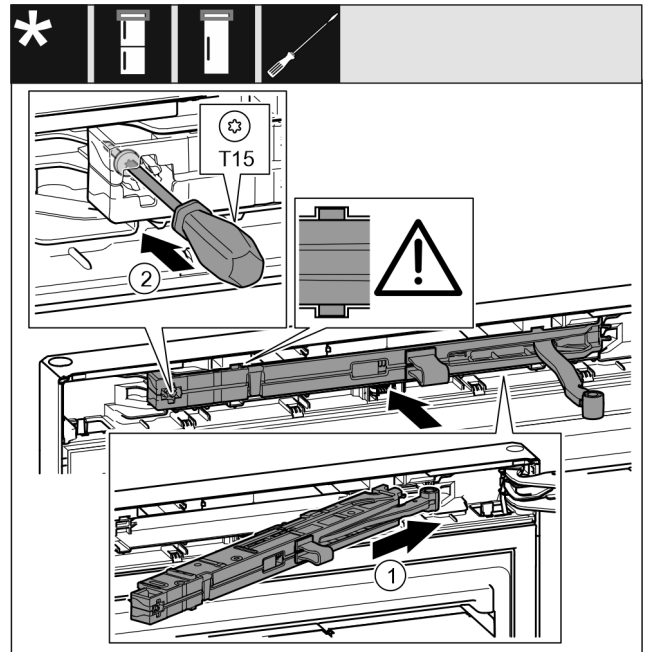

Fig. 22
- Slide the soft stop mechanism on the bearing bracket side at an angle into the recess as far as it will go. Fig. 22 (1)
- Tighten the screw using a T15 screwdriver. Fig. 22 (2)